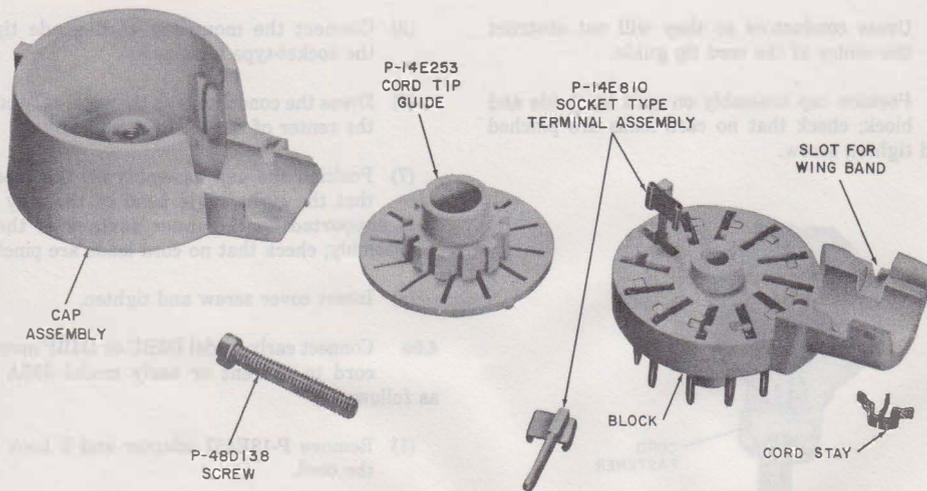

Fig. 15—504A Plug Disassembled
4.01 Included with the 504A plug (Fig. 15) is a metal cord stay designed for use with cords equipped with a wire S hook. The S hook is removed and discarded. The cord stay, inserted into the vacated band hole, serves as a wing band.
- (1) Place cord tip guide on block (Fig. 15).
- (2) Insert mounting cord tips into socket-type terminals of plug.